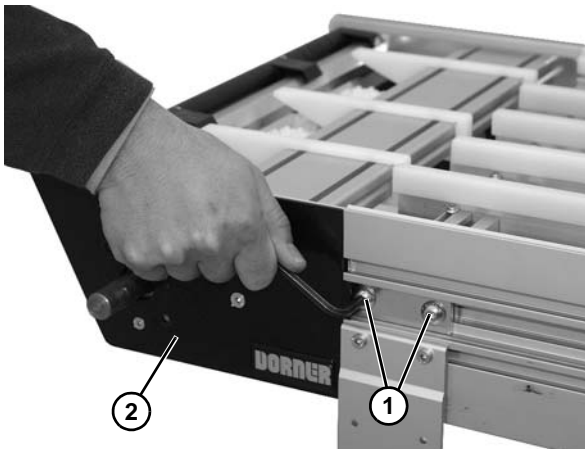

Figure 61
2. Loosen two socket head bolts (Figure 61, item 1) on each side of nose bar drive tail assembly (Figure 61, item 2).